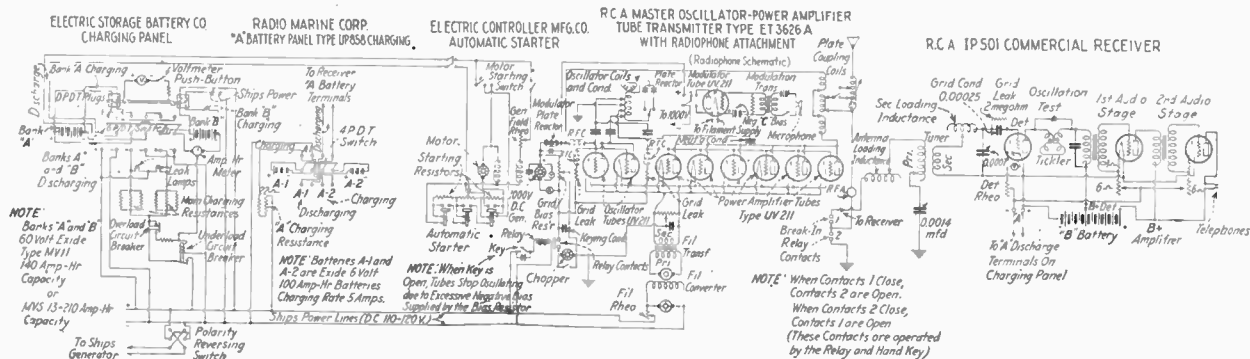

Fig. 7B.
*Ans.* Figure 7B illustrates a complete diagram of the above parts.
*Ans.* Figure 7B illustrates a complete wiring diagram of a commercial tube transmitter with a radiophone attachment.